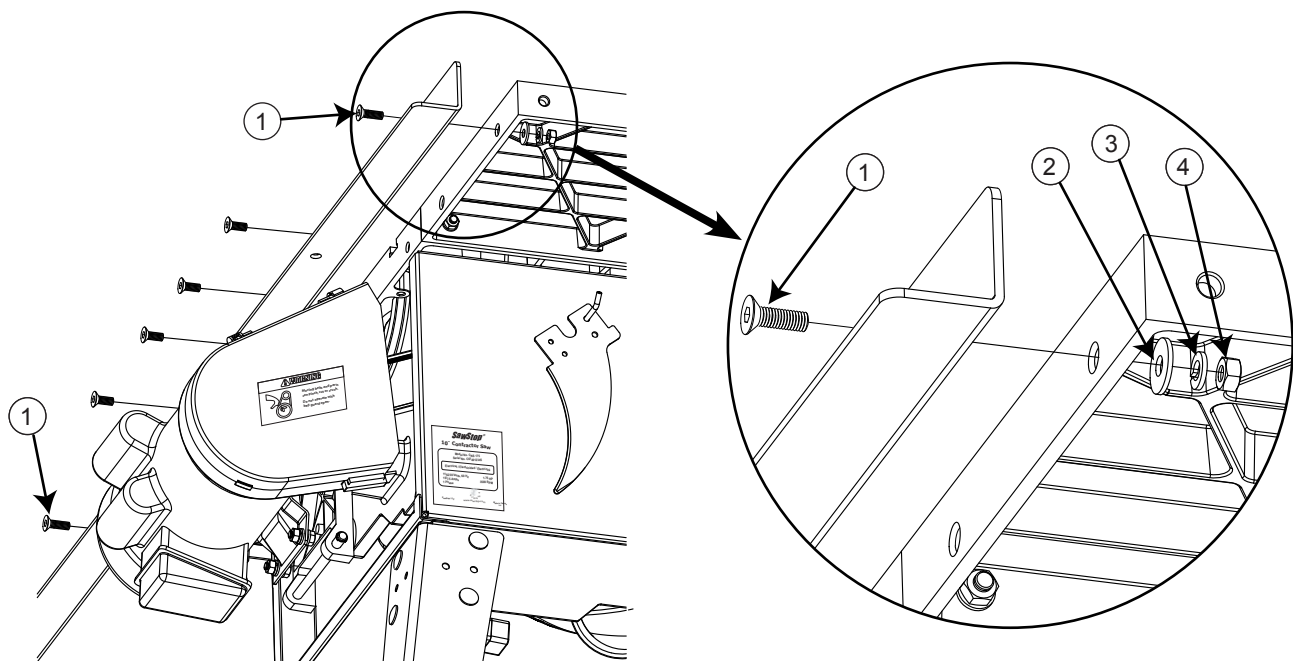

Fig. 7
- Take two M8 x 25 countersunk socket head bolts and insert one through each hole in each extension wing. Place an M8.5 x 23 washer and an M8 lock washer on the back of each bolt and then thread an M8 hex nut on each bolt (see Fig. 7). Hand tighten the nuts; do not fully tighten them.